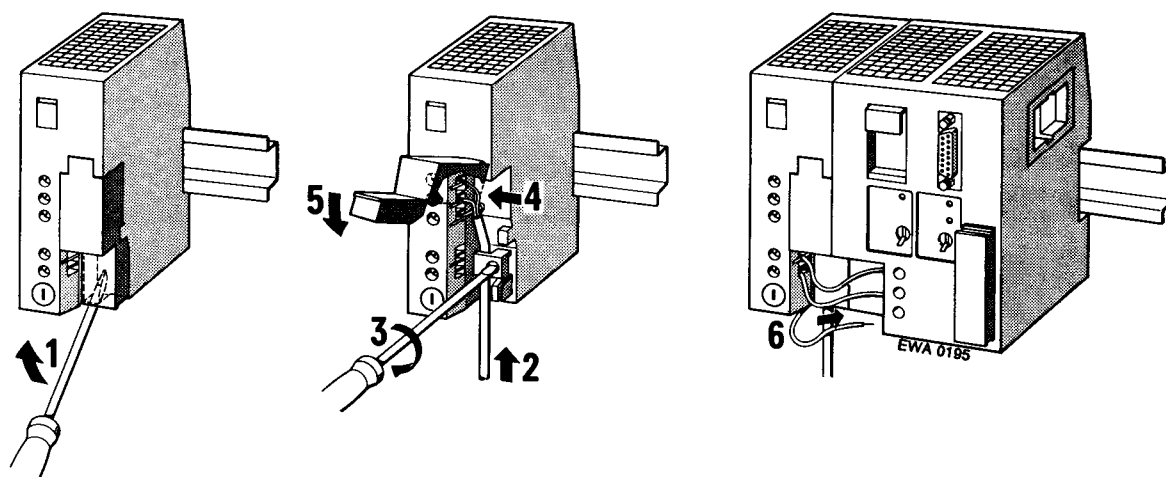

Figure 3-11. Connecting a Power Supply Module and a CPU
3. Connect the supply cable to terminals L1, N and $\underline{\underline{\text{G}}}$ (see Figure 3-11).